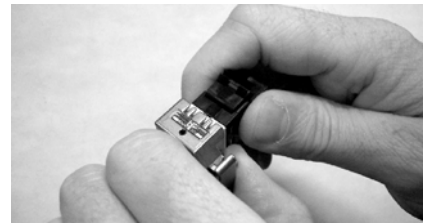

Figure 12
- Slightly move (wiggle) the connector back and forth while pulling in opposite directions. See Figure 12.